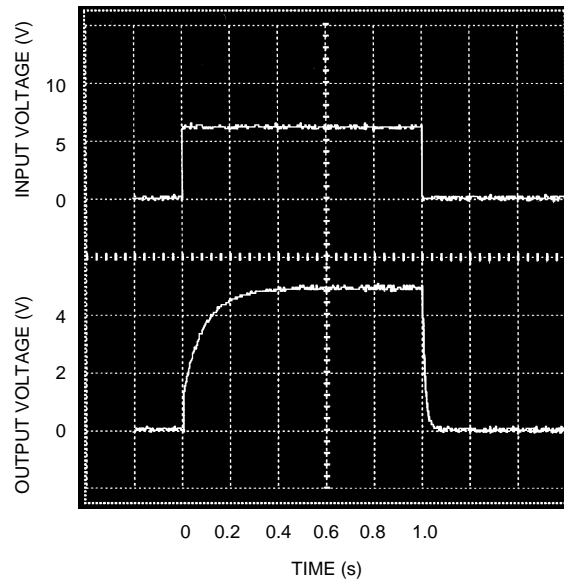
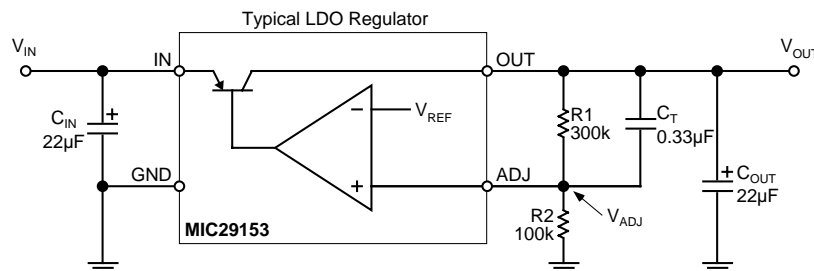
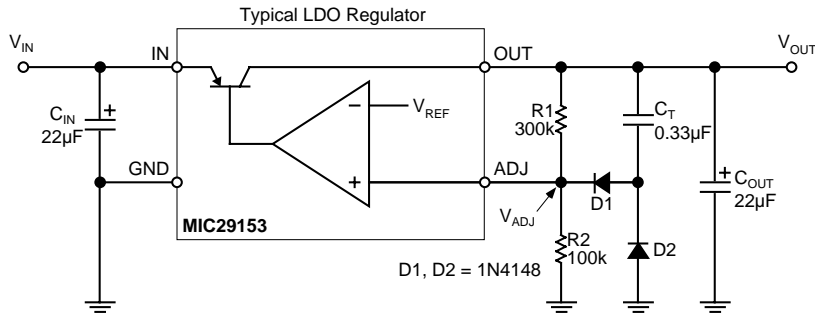
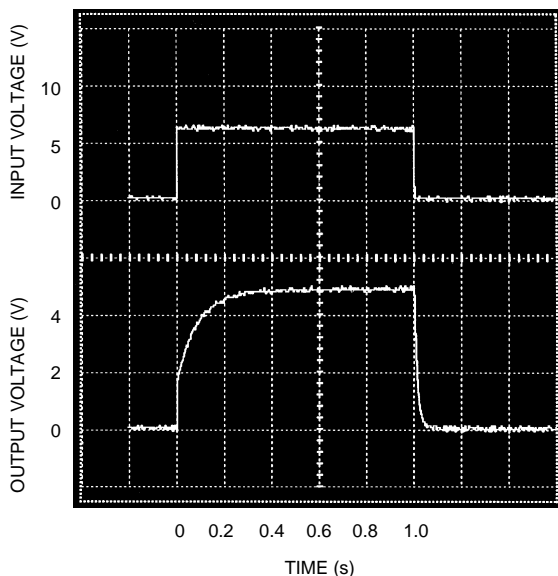

Figure 2. Turn-On Behavior for Circuit of Figure 1
Figure 1. Simplest Slow Turn-On Circuit
Figure 3. Improved Slow Turn-On Circuit
Figure 4. Turn-On Behavior of Figure 3
Figure 1 illustrates a typical LDO voltage regulator, the MIC29153, with an additional capacitor (C_T) in parallel with the series leg (R1) of the feedback voltage divider. Since the voltage (V_{ADJ}) will be maintained at V_{REF} by the regulator loop, the output of this circuit will still rapidly step to V_{REF} and then rise slowly. Since V_{REF} is usually only about 1.2V, this eliminates a large part of the surge current.
Figure 2 shows the waveforms of the circuit of Figure 1. This circuit has three shortcomings: (1) the approximately 1.2V step at turn-on, (2) the addition of capacitor C_T places a zero in the closed-loop transfer function (which affects frequency and transient responses and can potentially cause stability problems) and (3) the recovery time associated with a momentarily short-circuited output may be unacceptably long. This is because if the output is shorted C_T is discharged only by R2; if the short is removed before C_T is fully discharged the regulator output will not exhibit the desired turn-on behavior.
Figure 3 is an improvement on the circuit of Figure 1 in that it addresses the problems of potential instability and recovery time. Diode D1 is added to the circuit to decouple the (charged) capacitor from the feedback network, thereby eliminating the effect of C_T on the closed-loop transfer function. Because of the non-linear effect of D1 being in series with C_T , there is a slightly longer “tail” associated with approaching the final output voltage at turn-on. In the event of a momentarily shorted output, diode D2 provides a low-impedance discharge path for C_T and thus assures the desired turn-on behavior upon recovery.
Figure 4 shows the waveforms of the circuit of Figure 3. Note that the initial step-function output is now 0.6V higher than with the circuit of Figure 1. This approximately 1.8V turn-on pedestal may be objectionable, especially in applications where the output voltage is relatively low by design.